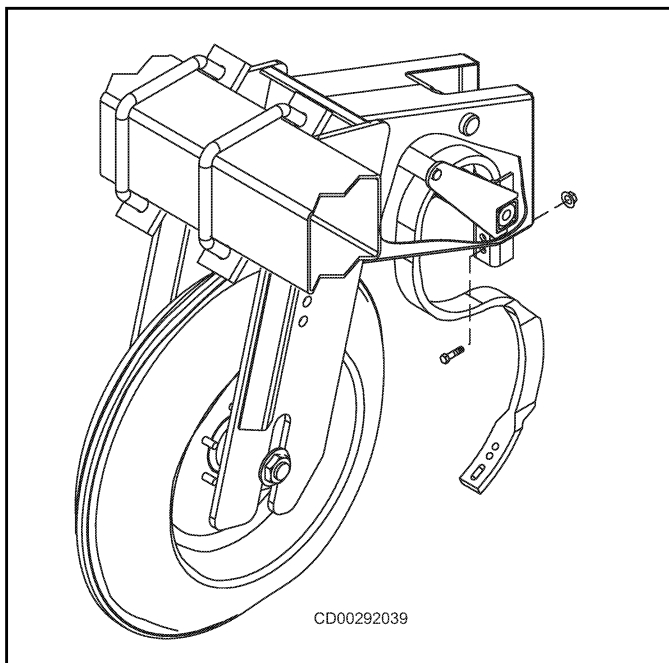

Figure 18 King Guide Adjustable Shank
2. Attach shanks to king guide strut, using 1/2 NC x 1-1/2 bolt and flanged lock nut (Figure 18).